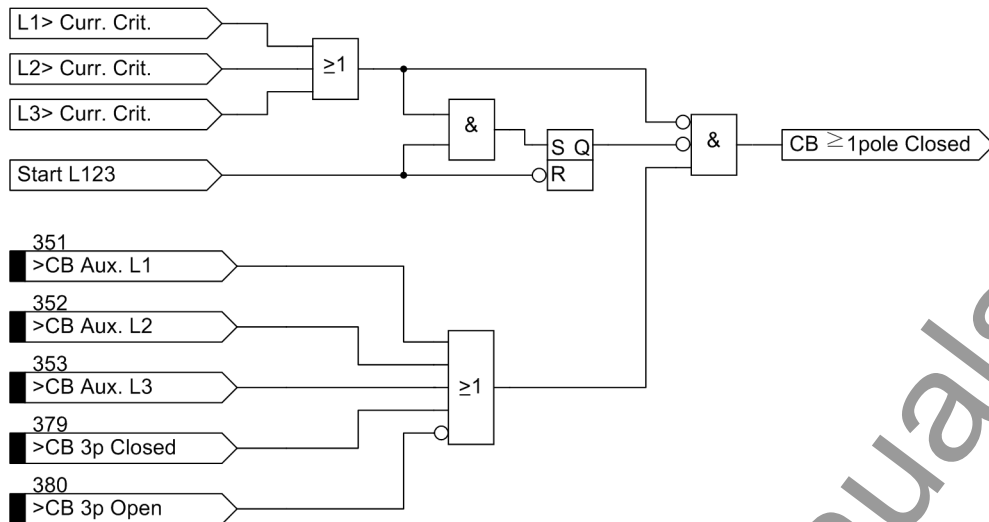
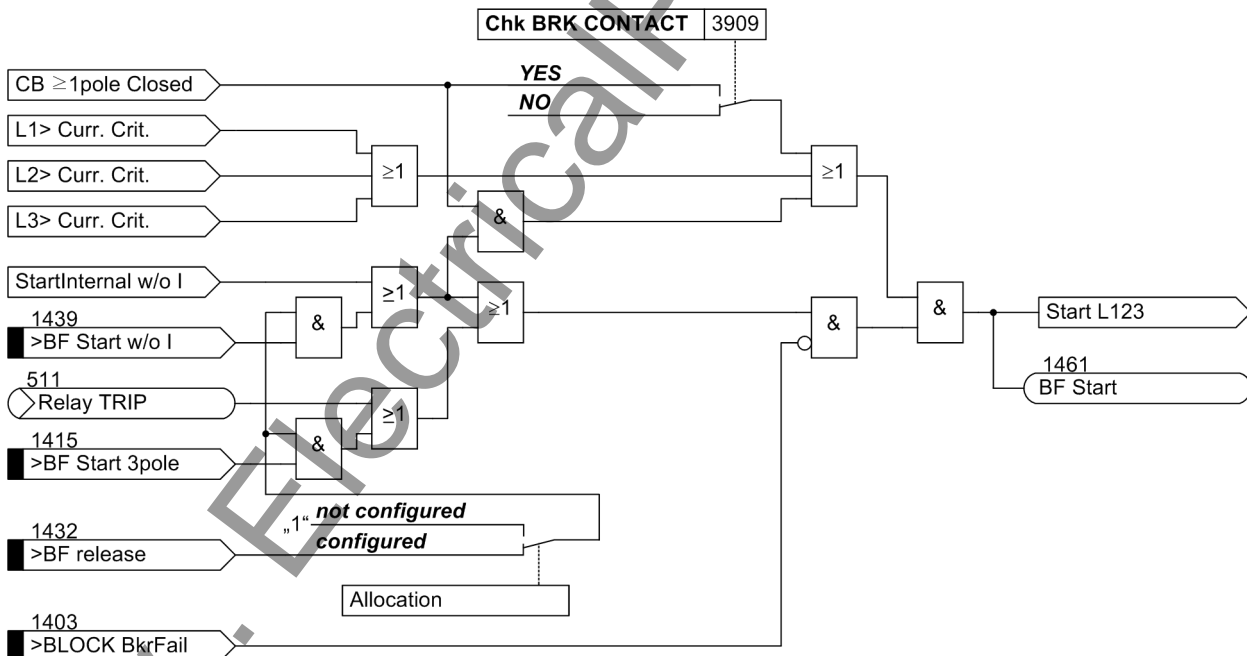

Figure 2-31 Creation of signal "CB ≥ any pole closed"
Figure 2-32 Breaker failure protection with common phase initiation
It is possible to disable the auxiliary contact criterion. If you set the parameter switch **Chk BRK CONTACT** (Figure 2-32 top) to **NO**, the breaker failure protection can only be started when current flow is detected. The position of the auxiliary contacts is then not evaluated even if the auxiliary contacts are connected to the device.
On the other hand, current flow is not a reliable criterion for proper operation of the circuit breaker for faults which do not cause detectable current flow (e.g. Buchholz protection). Information regarding the position of the circuit breaker auxiliary contacts is required in these cases to check the correct response of the circuit breaker. For this purpose, the binary input „>BF Start w/o I“ No. 1439 is provided (Figure 2-32 left). This input initiates the breaker failure protection even if no current flow is detected.
Figure 2-32 shows the operating principle. When the trip signal appears from any internal or external feeder protection and at least one current flow criterion according to Figure 2-29 is present, the breaker failure protection is initiated and the corresponding delay time(s) is (are) started.
If the current criterion is not fulfilled for any of the phases, the position of the circuit breaker auxiliary contact can be queried as shown in Figure 2-31. If the circuit breaker poles have individual auxiliary contacts, the series connection of the three normally closed (NC) auxiliary contacts is used. After a three-pole trip command the circuit breaker has only operated correctly if current no longer flows over the poles or if all three NC auxiliary contacts are closed.
Figure 2-31 illustrates how the internal signal „CB pole  $\geq$  L1 closed“ is created (see Figure 2-32 left) if at least one circuit breaker pole is closed.